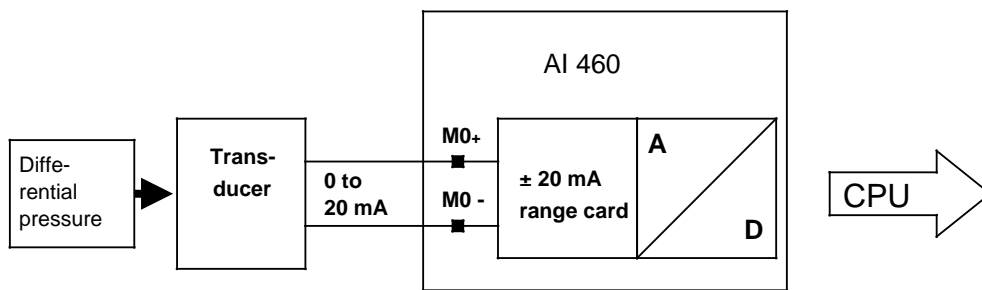

Figure 7-18. Function of the 460 Analog Input Module
- Plug a ± 20 mA range card (6ES5 498-1AA41) into the AI 460. A digital value between 0 and 2048 units, which is subsequently processed by the application program, is then present at the output of the analog input modules's internal ADC (Figure 7-18).